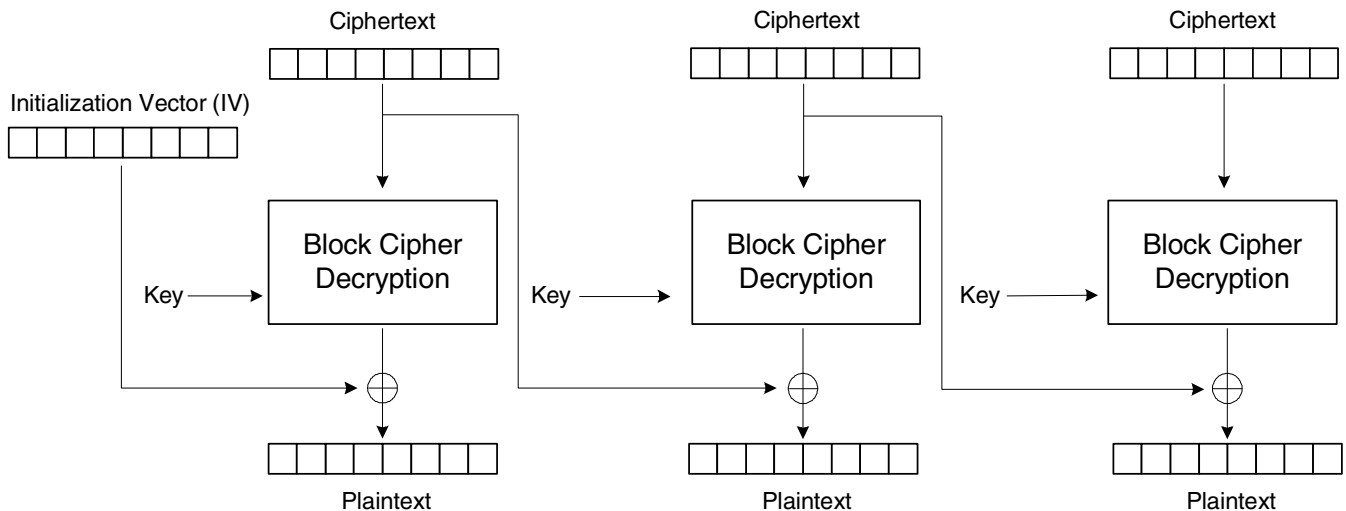

Figure 16-3. Cipher Block Chaining (CBC) Mode Decryption
Decryption (shown in Figure 16-3) works in a similar manner, where the cipher text is first decrypted and then XORed with the previous ciphertext. For the first encryption/decryption operation, an initialization vector (IV) is used to seed the operation. The IV must be the same for both the encryption and decryption steps; otherwise, decrypted data will not match the original plaintext.